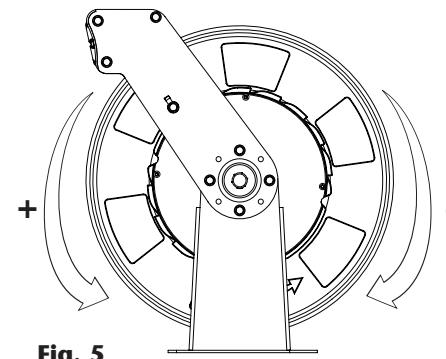

Fig. 5
3. Start to rewind the hose, turning the spool manually until the hose is completely wound around the spool (the power spring still will be with no tension). Apply the pre-tension to the power spring by turning the spool in positively direction as shown in (fig. 5). Do not apply more pre-tension turns than shown in table 1, the power spring could be damaged.
6. Apply the pre-tension to the power spring as shown in table 1, by turning the spool in positively direction as shown in (fig. 5). Do not apply more pre-tension turns than shown in table 1, the power spring could be damaged.
4. Turn the spool to increase or decrease the power spring (fig. 5).